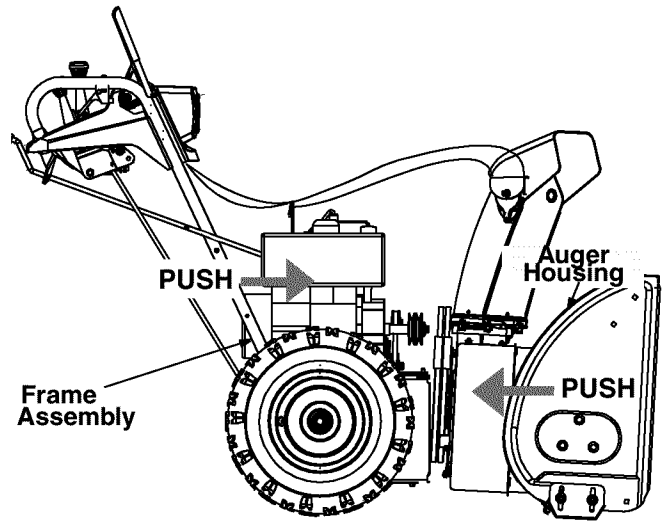

Figure 24
- While lifting up on the handles, bring the frame assembly close to the auger housing, and place the two belts on the front and rear engine pulleys. See Figure 24.